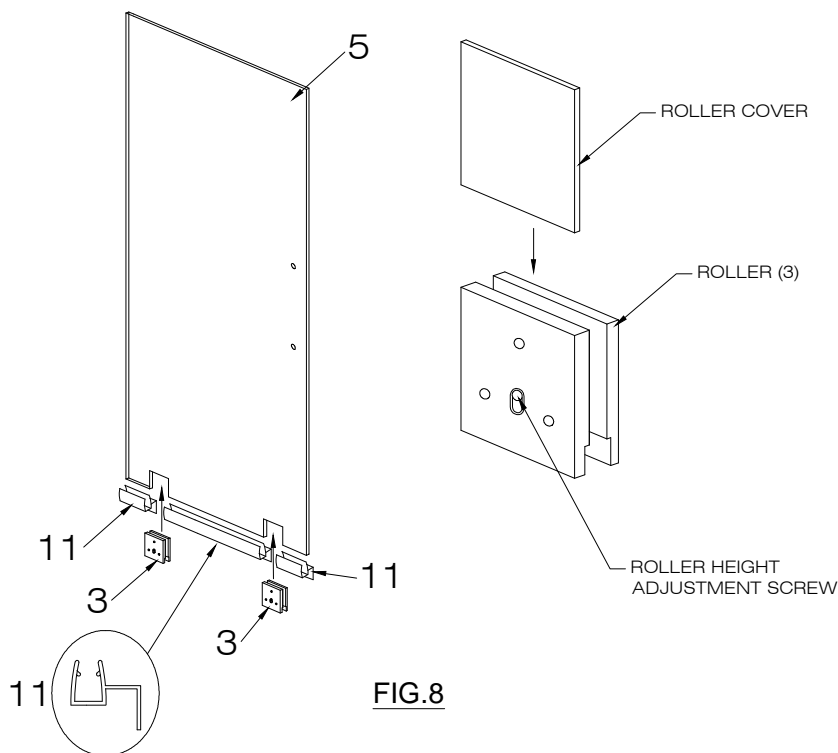

FIG.8
2. Install the door bottom seal strips (#11) onto the bottom of the door panel. [SEE FIG.8]
3. Loosen the screws and dismantle the roller. Place the roller in the space in the glass at the bottom of the door panel (#5). Fully tighten the adjustment screws and re-install the roller cover. [SEE FIG.8]
7. Note that there is an adjustment on the roller to accommodate walls that are not 100% plumb. The bottom screw on the face of the roller adjusts the height of the ball bearing inside. You may need to remove door unit from install to modify height. It will also require two people. One person to hold the glass in the closed position while the other loosens the roller height adjustment screw and tightens when the glass is in the desired position. Please refer to pages 13-16 for "Roller Adjustments to Accommodate Out of Square Openings." Once the rollers are properly adjusted and the door sits flush against the wall in the closed position, the adjustment will be complete. Fully tighten the adjustment screws and re-install the roller covers. [SEE FIG.8]